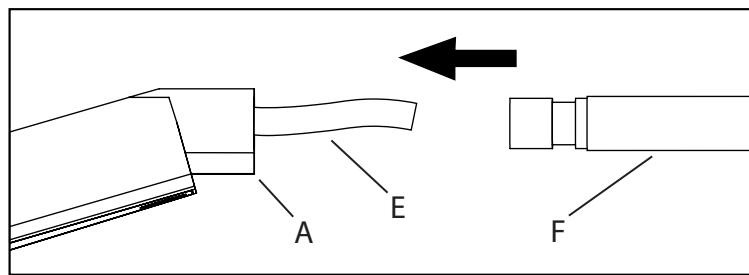
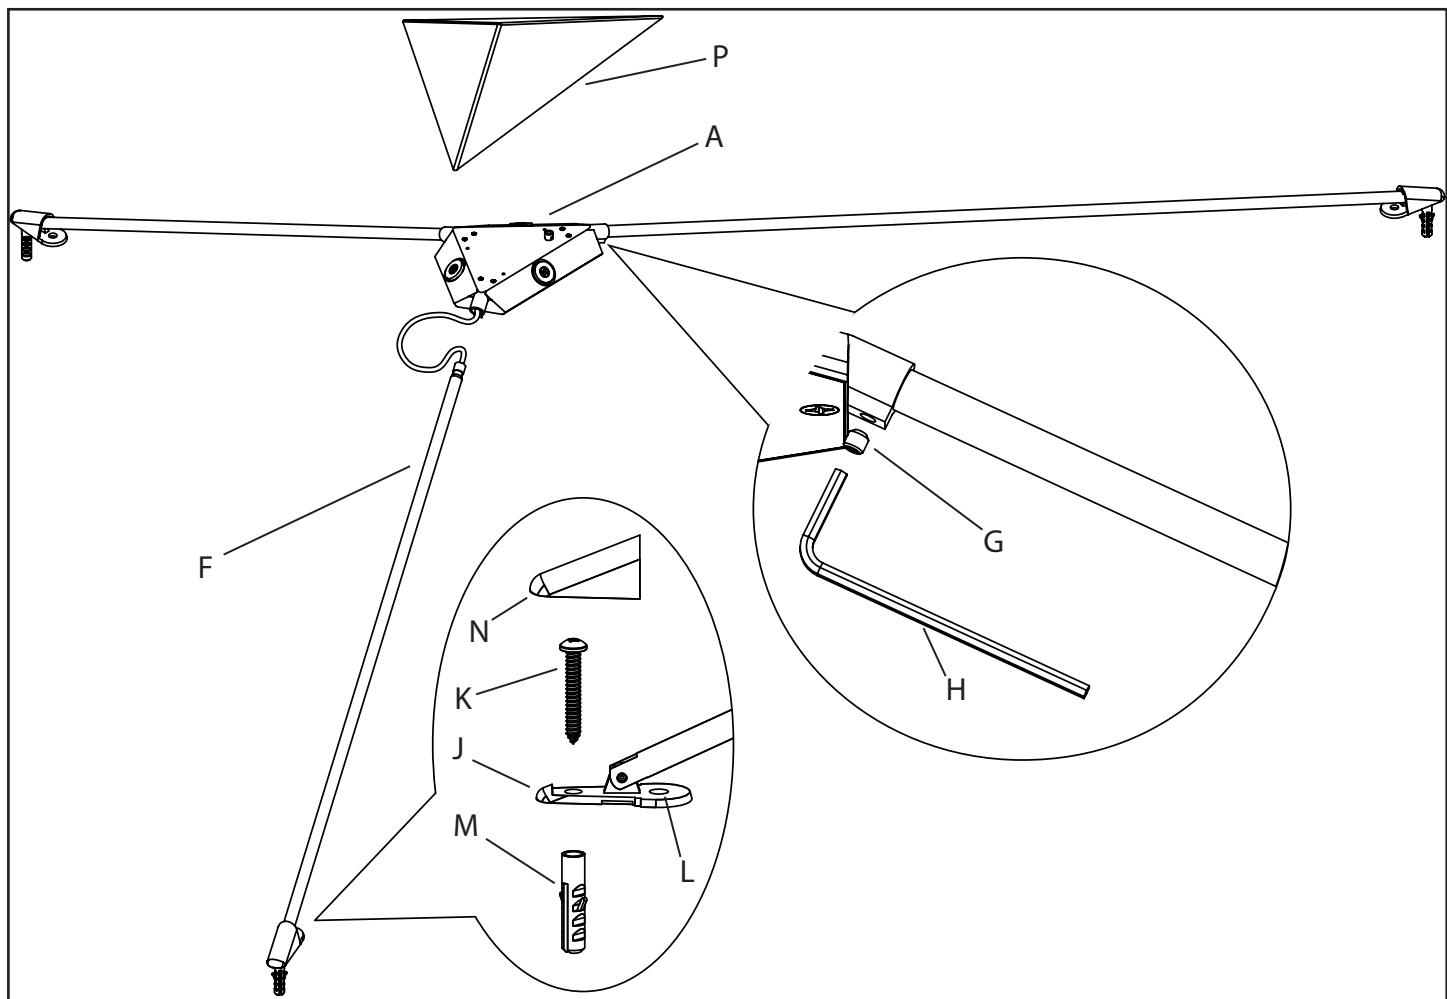
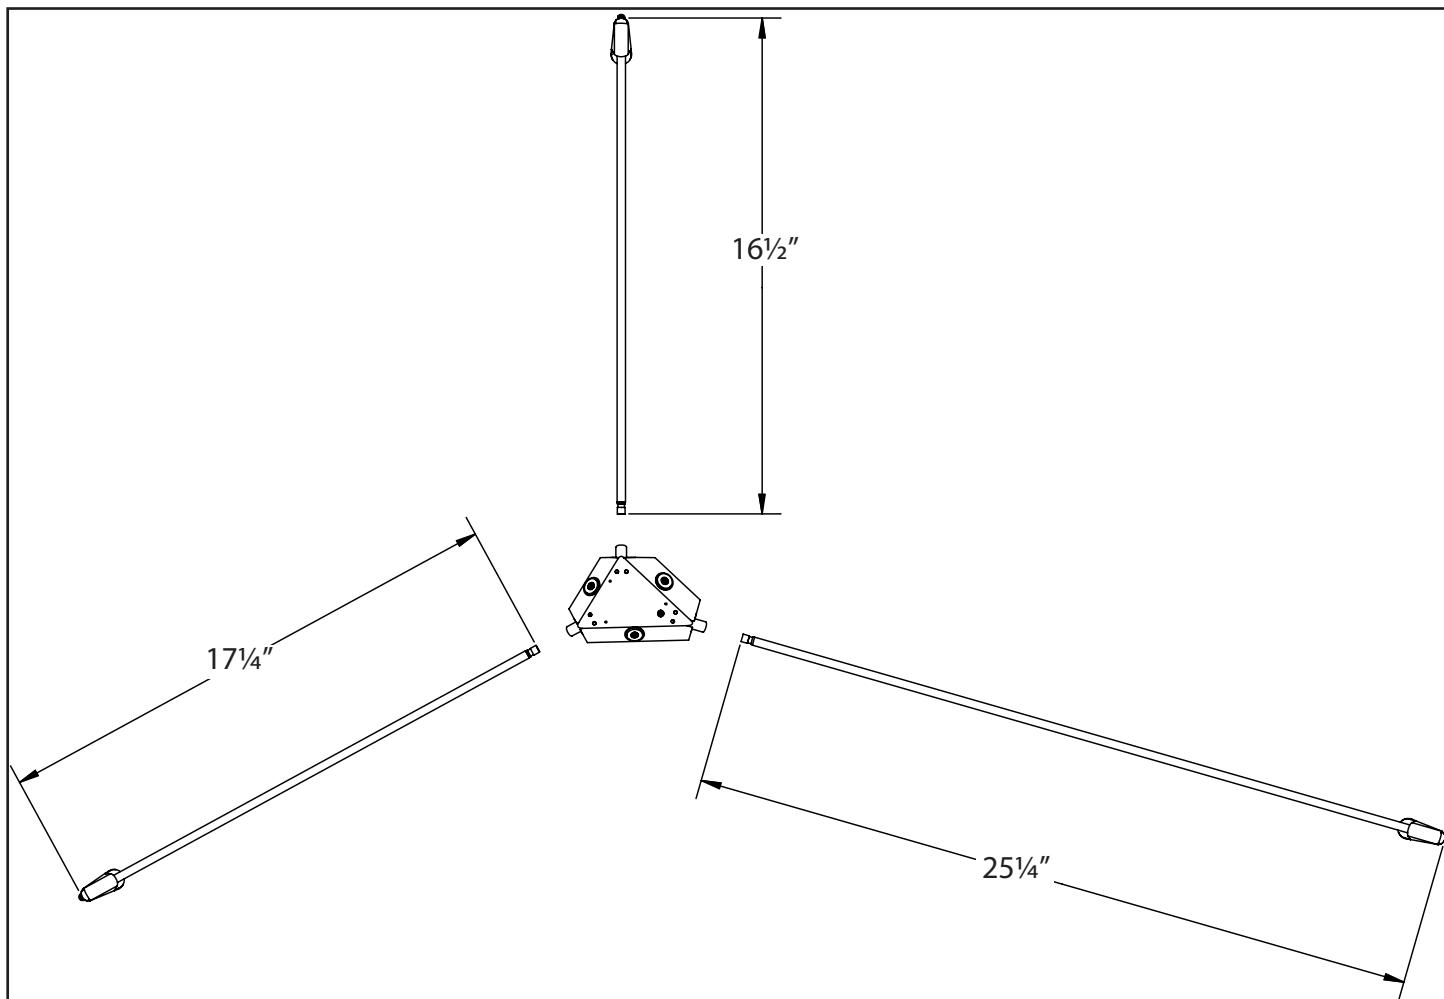

Fig. 2
Fig. 3
Fig. 4
3. Insert each arm (F) into the fixture (A) in accordance to Fig. 2, and tighten set screw (G) with the provided allen key (H) (Fig. 3). Make sure arm lengths/positions are correct according to Fig. 4.